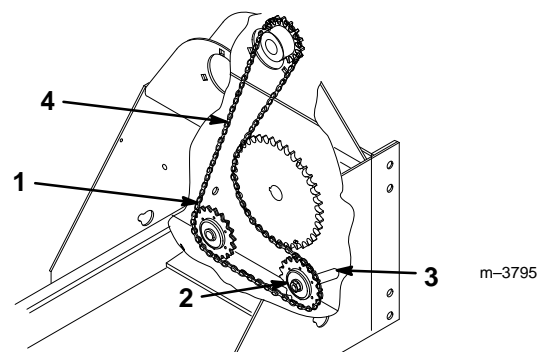

Figure 2
1. Loosen the bolt securing the idler sprocket (Fig. 2).
2. Position the chain around the sprockets as shown in Figure 2.
3. Slide the idler sprocket in the adjustment slot until the chain is snug, but not tight (1/8" to 1/2" deflection of the chain in the area indicated in Figure 2) and torque the bolt securing the sprocket to 67 to 83 ft lbs (90.8 to 112.5 Nm).